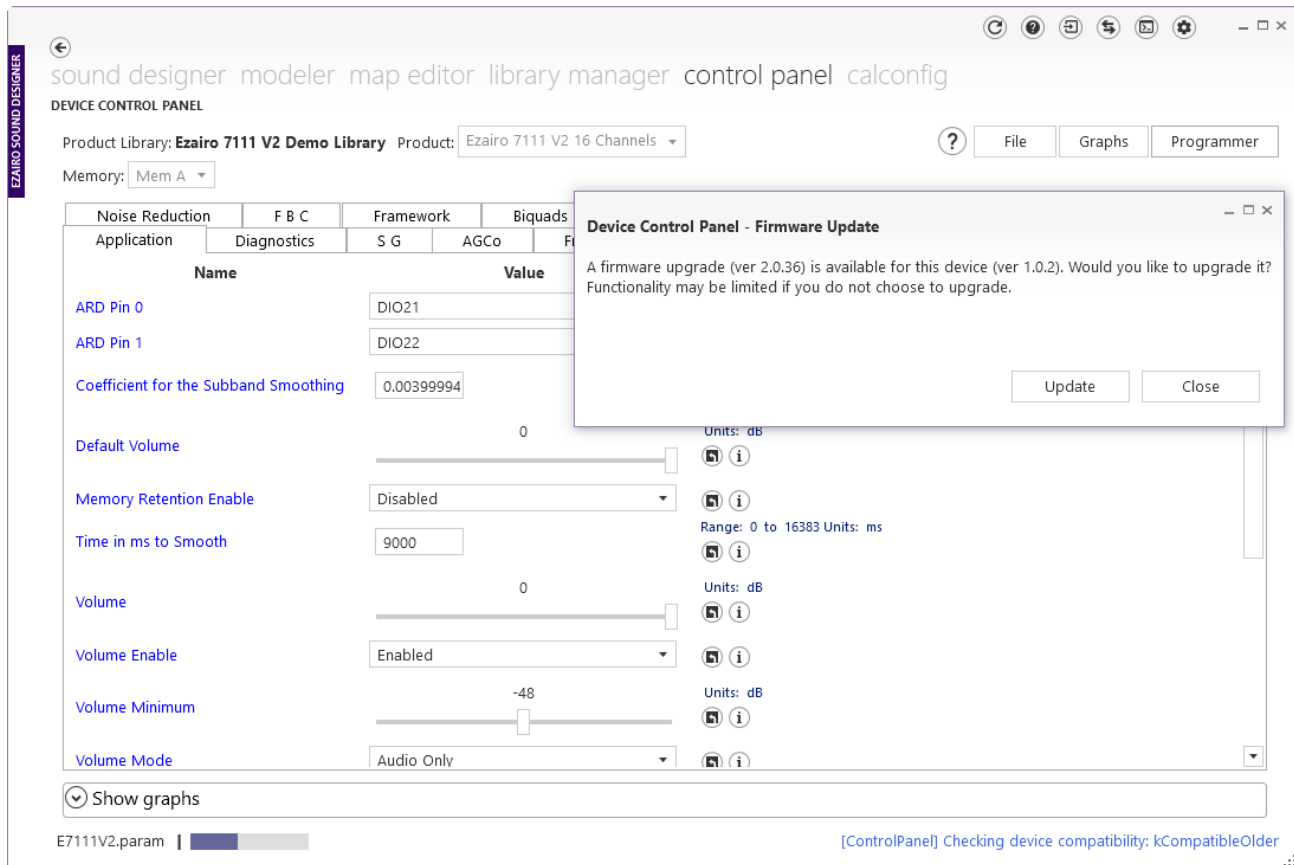

Figure 10. Upgrading the Firmware
9. Before communicating any parameter information, Sound Designer Software checks the device to determine the firmware version currently residing in NVM. If the current version (contained within Sound Designer Software) is not the same as that currently in the device, you are prompted to upgrade the firmware. The prompt screen looks similar to that shown in the "Upgrading the Firmware" figure (Figure 10).